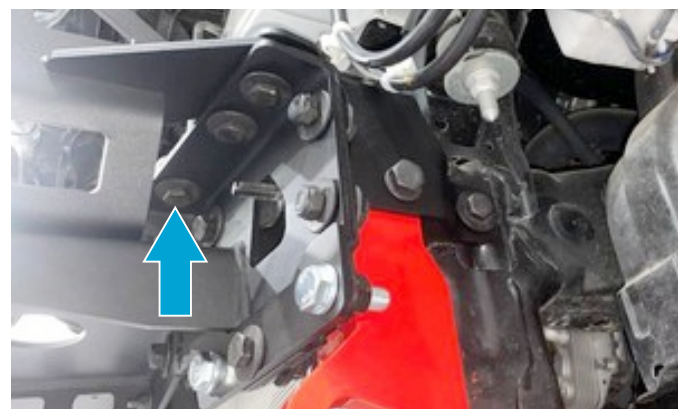

Fig.48
45. Tighten the hardware shown in Fig.48.